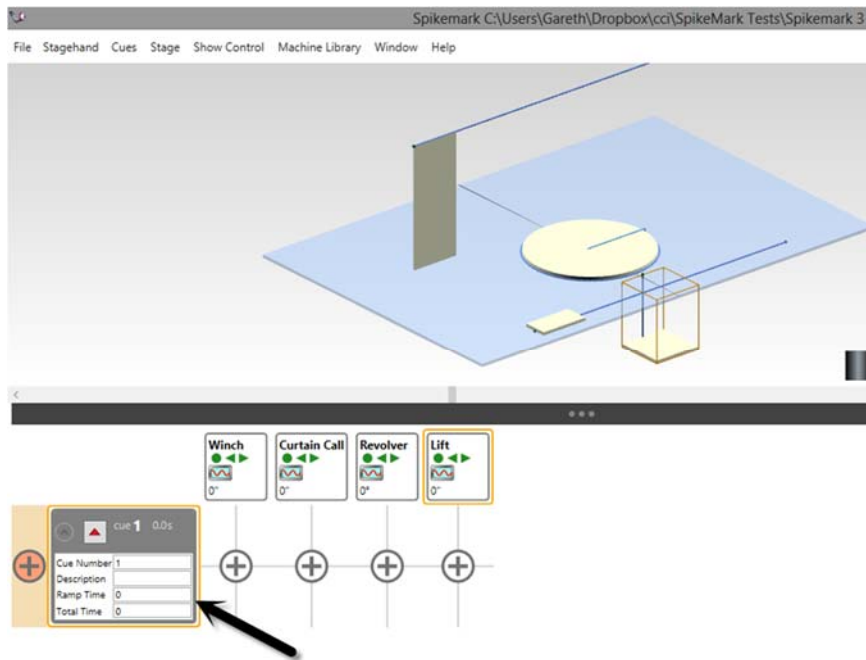

Figure 305
5. You can now set the position for the motors within any given cue by clicking on the applicable Cue in the **Cue Grid** (Figure 305).